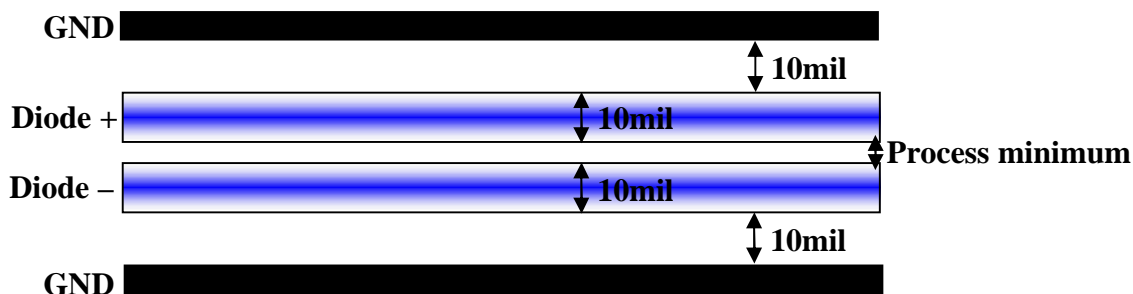

Figure 1. PCB Route Dimensions and Shielding
- Differential routing widths and shielding are shown in Figure 1.